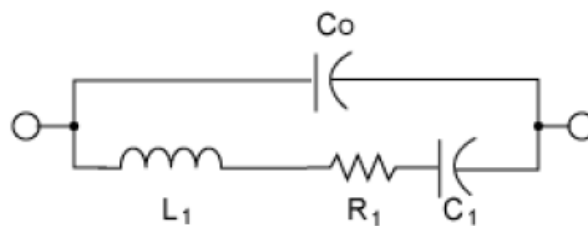

Figure 3. Crystal equivalent circuit.
**Figure 3** shows the equivalent circuit for a crystal. Near the resonant frequency the circuit consists of a series circuit including motional inductance  $L_1$ , motional resistance  $R_1$ , and motional capacitance  $C_1$ . The parallel component  $C_0$  is the shunt capacitance of the crystal.